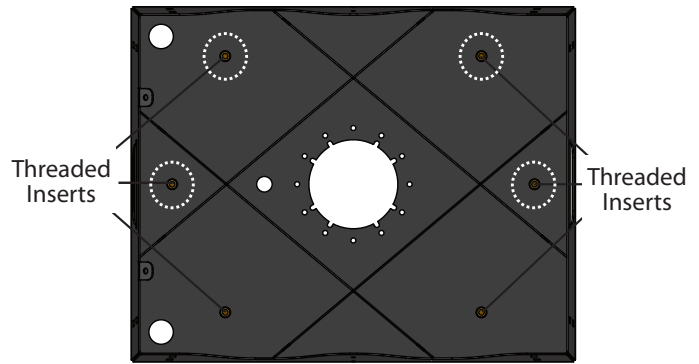

FIG. 2
Insert four Hex Head Bolts (H16) down through the threaded inserts on the Stand Body (F) shown circled in [FIG. 2].